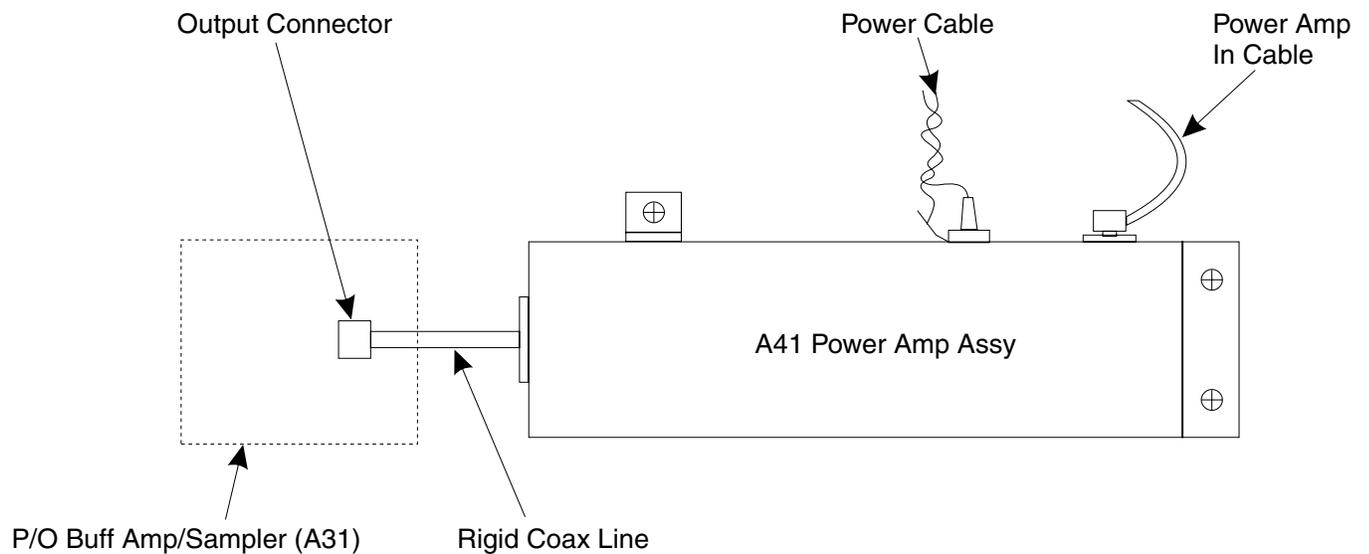

Figure 8-12. A41 Power Amplifier Assembly, Details
- Step 2.** Disconnect the PWR AMP IN cable on the side of the Power Amplifier assembly; see Figure 8-12. (Pull out gently to disconnect.)
- Step 4.** Disconnect the Power Amplifier from the Buffer Amplifier/Sampler by carefully pulling up on the connector end of the rigid-coaxial line from the Power Amplifier. (See Figure 8-12.) Carefully lift the assembly from the Test Set Module.